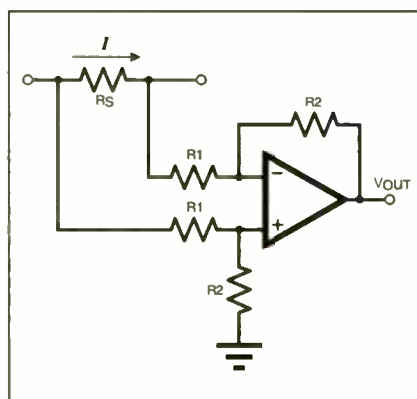
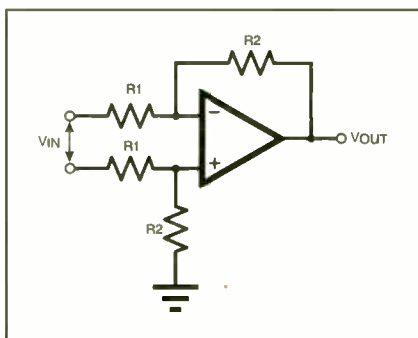
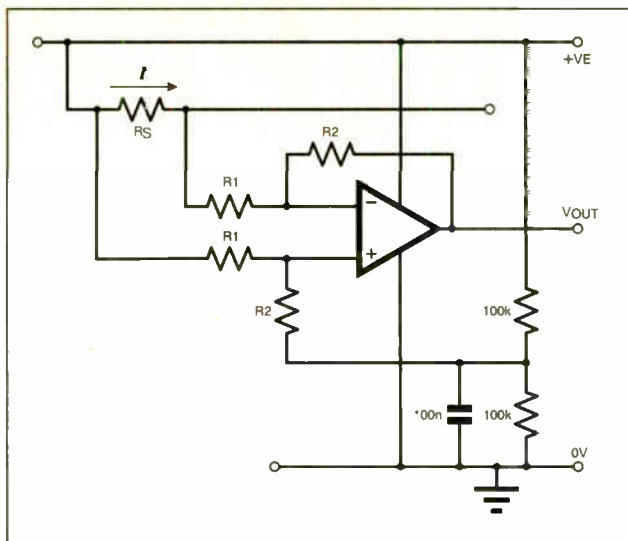

Fig.2. Principles of "high side" current measurement.
Fig.1. Differential amplifier (split supplies).
Fig.4. Circuit to illustrate common input voltage when using single supply differential amplifier for high side current measurement.
The circuit to which David refers is an op.amp differential amplifier circuit, as shown in Fig. 1. We can use this circuit to measure current (I) by amplifying the voltage dropped across a known (and usually small) sense resistance, R_S , as shown in Fig.2.
At this point we must also remind you that the common mode rejection ratio (CMRR) of the circuit in Fig. 1 is poor, or, more specifically, it is highly dependent on
The circuit shown in Fig.1 can be modified by using the "half-supply rail generator" we showed last month (p.790) to generate an "earth" to connect to the earthy end of resistor R2 (i.e. the point indicated by the earth/ground symbol in Fig.1). See Fig. 4 for an example of the kind of circuit arrangement you might try.
One aspect you have to watch out for is the common mode input range of the op.amp as illustrated in Fig. 4. The high side sense resistor R_s has one terminal connected to the power supply rail, and by virtue of the small voltage drop essential to prevent this resistor interfering with the measurement, the other side of R_s will be at almost the same voltage.